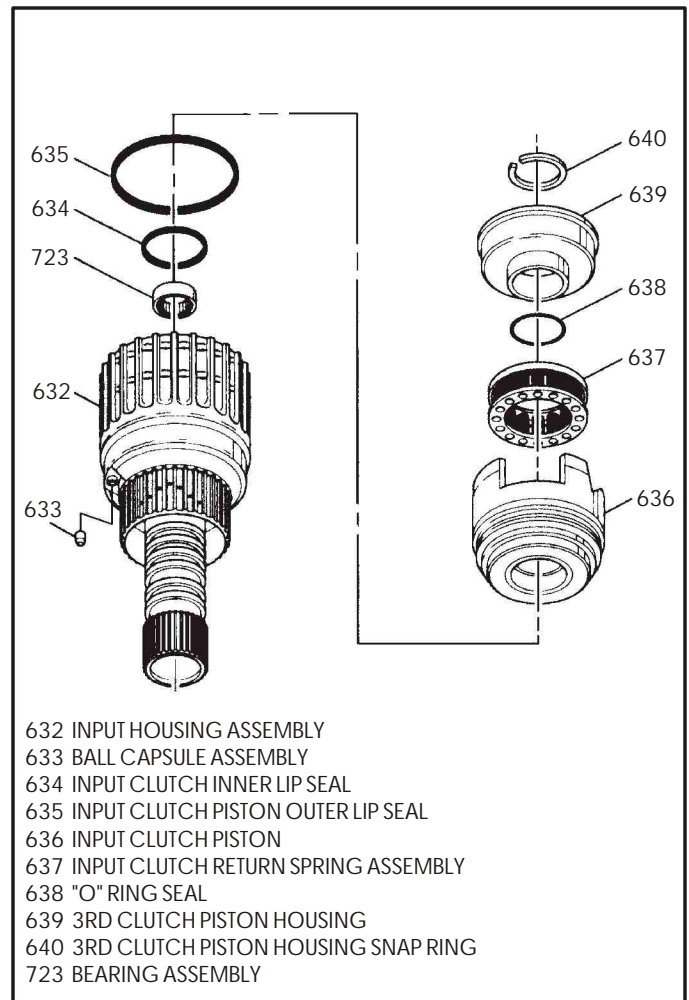

Figure 106
15. Remove the input clutch return spring and the input clutch piston from the housing, as shown in Figure 106.